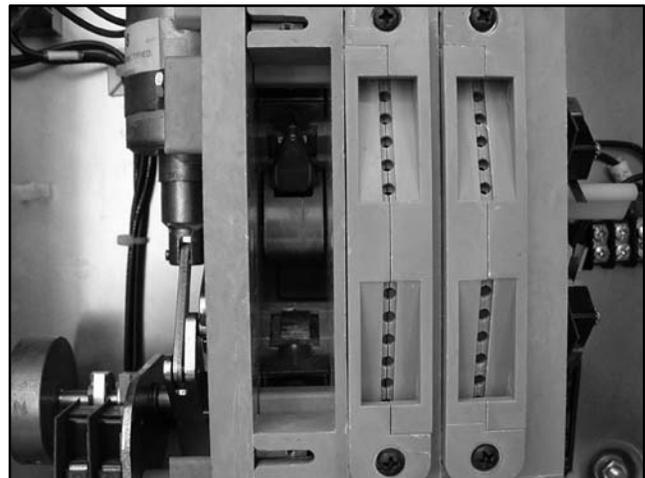

Figure 5-8 Movable Contacts (arc chute removed)
7. Inspect the movable contact for damage. See Figure 5-8. If damage is found, order a replacement power panel and continue to Step 8.